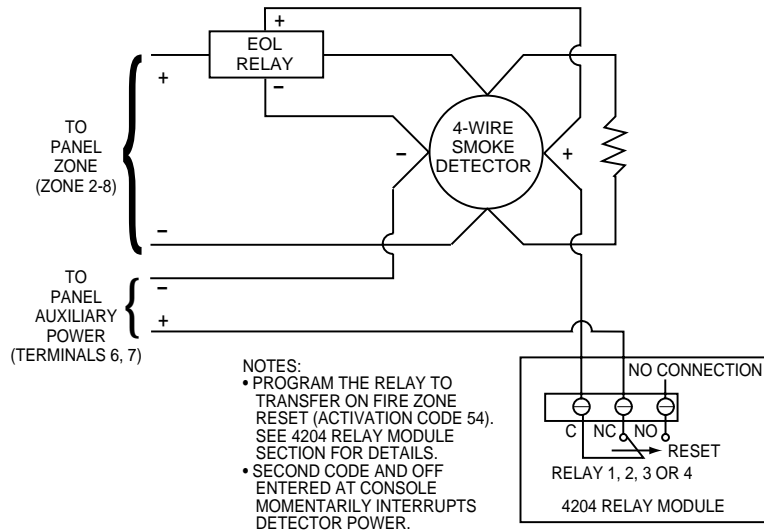

Figure 11: 4-Wire Smoke Detector Power Reset Using 4204 Relay Module
1. Connect 12 volt power for the detectors from Auxiliary Power terminals 6 and 7 as follows: Wire the [+] side of Auxiliary Power (Terminal 6) to the N.C. contact of the 4204 relay. Wire the Pole of the Relay to the [+] Power side of the smoke detector. Connect the [-] side of the smoke detector to [-] Aux. Power (Terminal 7). Observe proper polarity when connecting detectors (see *Figure 11*).